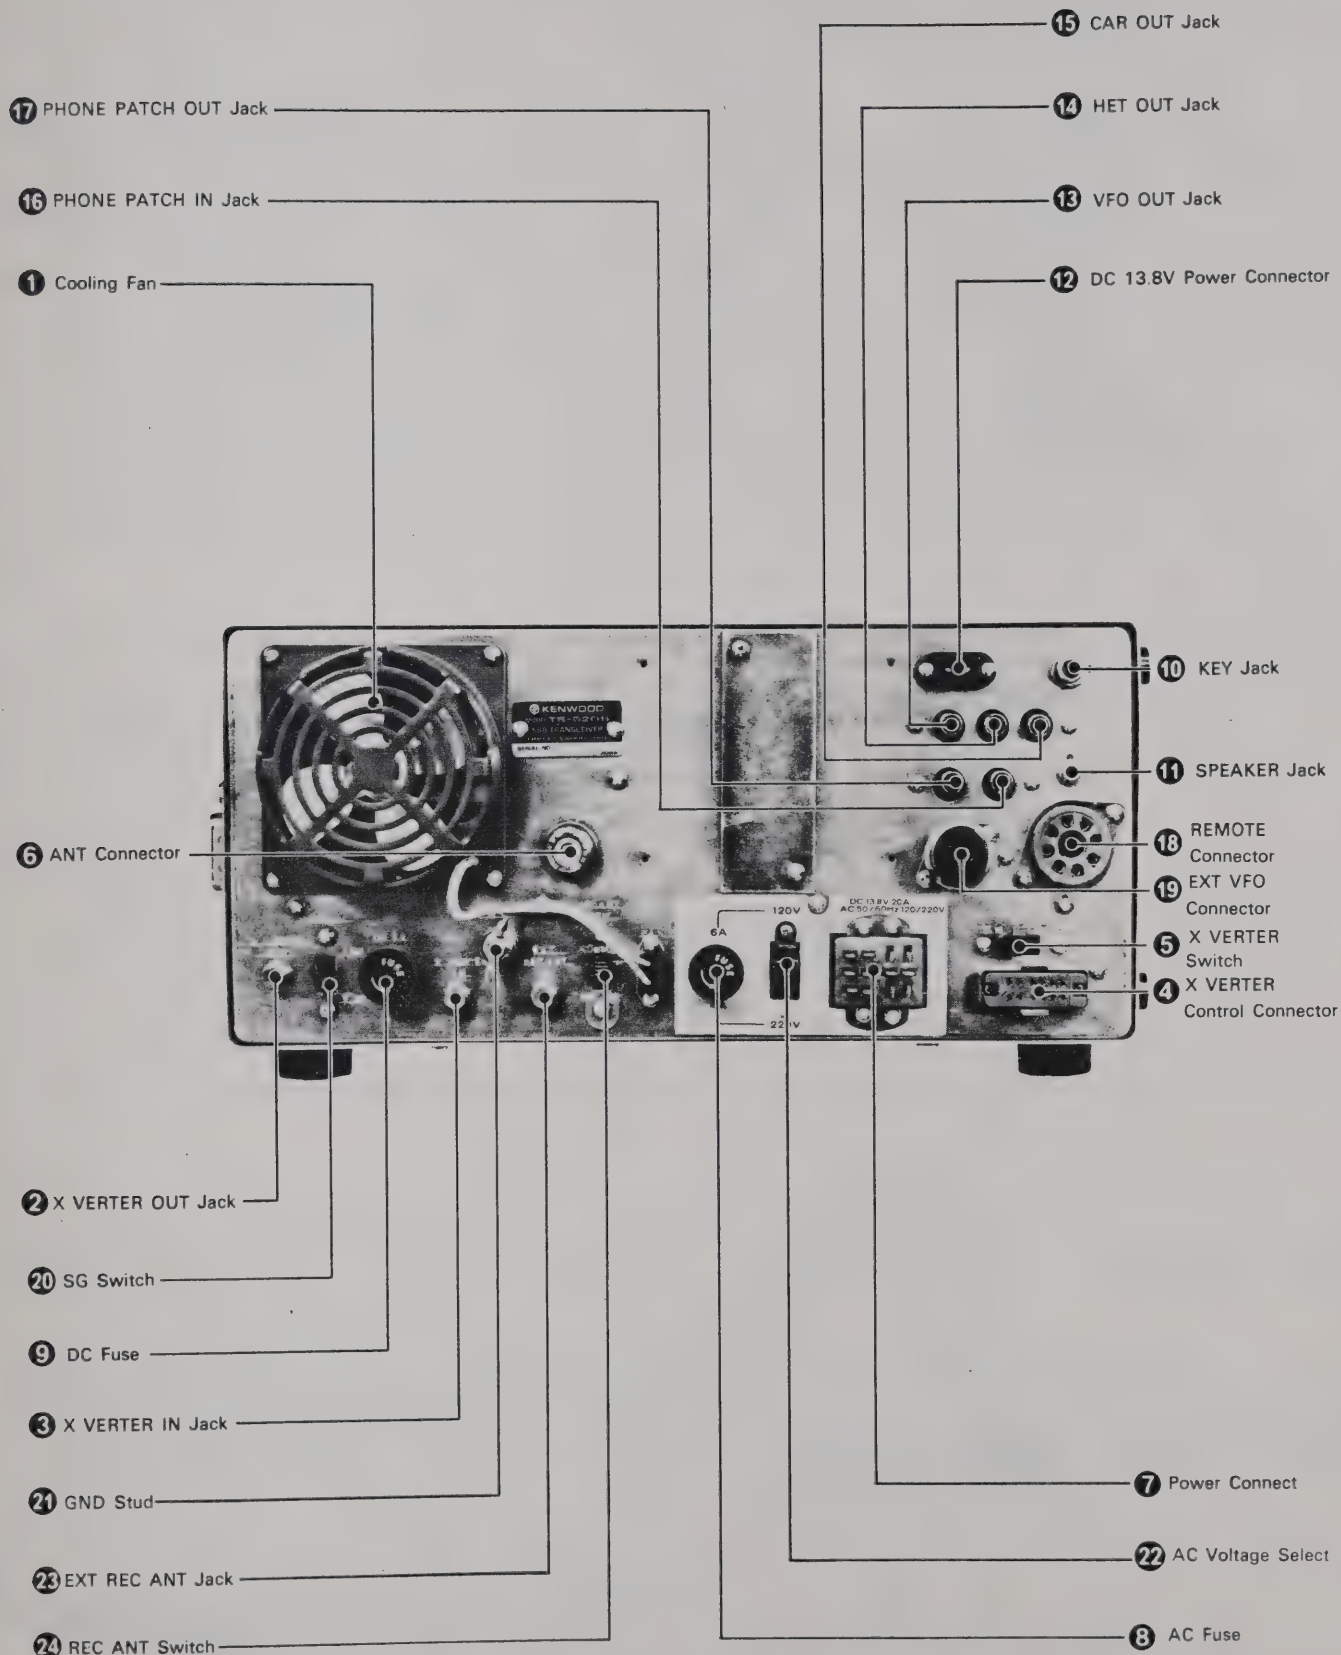

Fig. 7 Rear Panel Controls
3.3 REAR PANEL CONTROLS (See Figure 7)
■ COOLING FAN (① on Figure 7)
■ TRANSVERTER OUT JACK (② on Figure 7)
■ TRANSVERTER IN JACK (③ on Figure 7)
■ TRANSVERTER CONNECTOR (④ on Figure 7)
■ X VERTER SWITCH (⑤ on Figure 7)
■ ANTENNA CONNECTOR (⑥ on Figure 7)
■ POWER SUPPLY CONNECTOR (⑦ on Figure 7)
■ AC FUSE (8 on Figure 7)
■ DC FUSE (9 on Figure 7)
■ KEY JACK (10 on Figure 7)
■ SPEAKER JACK (11 on Figure 7)
■ 13.8V DC CONNECTOR (12 on Figure 7)
■ VFO OUT JACK (13 on Figure 7)
HET OUT JACK (14 on Figure 7)
CAR OUT JACK (15 on Figure 7)
■ PHONE PATCH IN JACK (16 on Figure 7)
■ PHONE PATCH OUT JACK (17 on Figure 7)
■ REMOTE CONNECTOR (18 on Figure 7)
■ EXTERNAL VFO CONNECTOR (19 on Figure 7)
■ SG SWITCH (20 on Figure 7)
■ GND (Ground) LUG (21 on Figure 7)
■ AC VOLTAGE SELECT SWITCH (22 on Figure 7)
■ EXTERNAL RECEIVER ANTENNA JACK (23 on Figure 7)
■ RECEIVER ANTENNA SWITCH (24 on Figure 7)